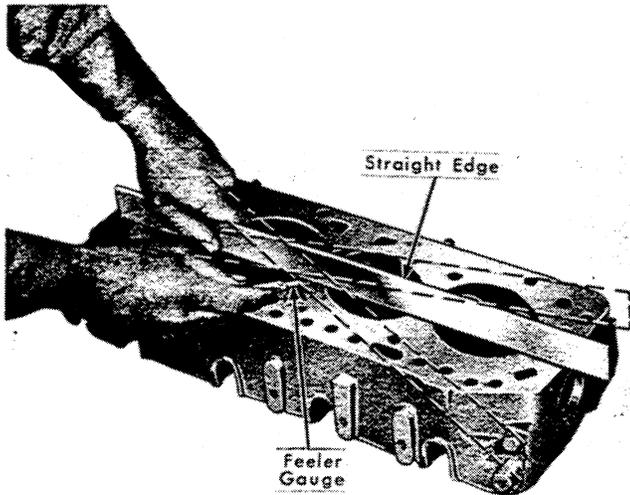
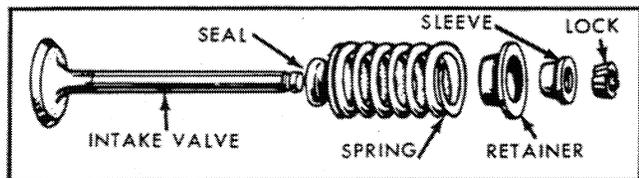
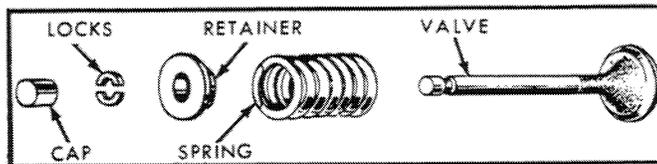

Figure 6
Figure 15
Figure 16
oil stone. With a straight edge and thickness gauge, check the flatness of the cylinder head as shown in Figure 6. Specifications for flatness are 0.005" maximum over-all.
7. Install the spring retainer sleeve as shown in Figure 15, on the intake valves. Install the spring retainer as shown in Figure 16, on the exhaust valves. Compress the spring with Valve Spring Compressor 6513-EE and install the valve locks, Figure 6.